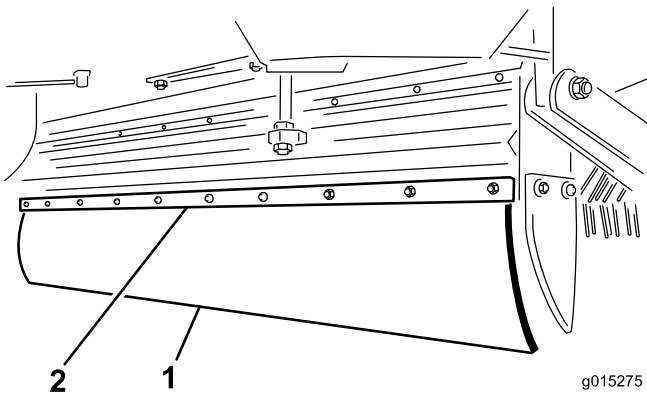

Figure 29
1. Remove the 10 bolts, washers, and nuts on the mounting and flap retainer (Figure 29).